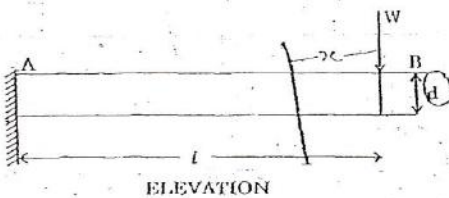

Fig. 2
(b) Find the moment of inertia of the triangular section shown in Fig. 2. 10
- (B.) (a) A cantilever of length l and depth d tapers in plan in such a way that the breadth b at the fixed end, decreases to zero at the free end. Determine the deflection at the free end due to load W acting at the free end (Fig. 2). 12